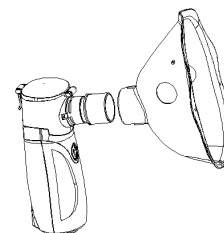

Fig. 10
- Connect mask connector to mesh outlet, then connect mask to the mask connector. (Refer to Fig. 10, 11)